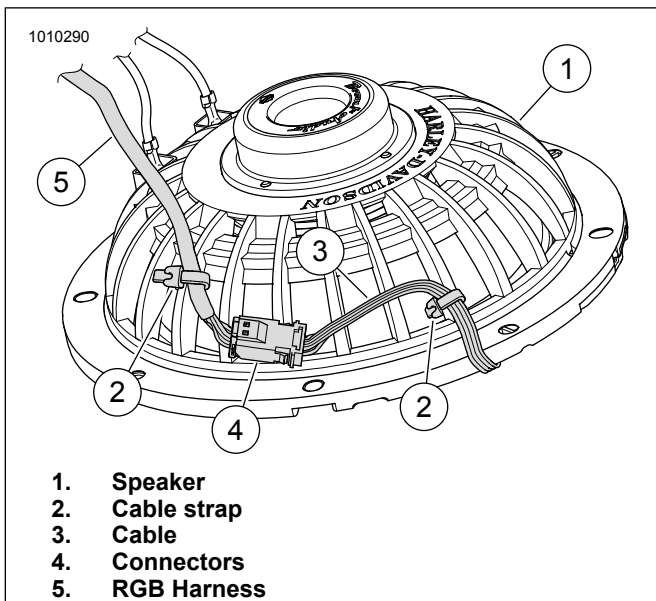

Figure 12. Speaker Back, Cable and Cable Tie
- a. See Figure 12. Join connectors (4) from the light engine to RGB harness.
- b. Route light engine cable (3) along the back of the speaker (1) as shown. To stabilize the connectors (4), secure light engine cable (3) and RGB harness (5) with cable straps (2) as shown.